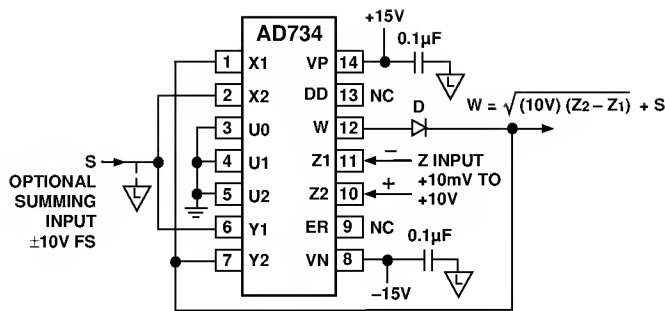

Figure 9. Connection for Square Rooting
In some cases, feedback may be connected to two of the available inputs. This is true for the square-rooting connections (Figure 9), where W is connected to both X_1 and Y_2 . Setting $X_1 = W$ and $Y_2 = W$ in Equation (2), and anticipating the possibility of again providing a summing input, so setting $X_2 = S$ and $Y_1 = S$, we find, in shorthand form
The AD734 may be used to generate an output proportional to the square-root of an input using the connections shown in Figure 9. Feedback is now via both the X and Y inputs, and is always negative because of the reversed-polarity between these two inputs. The Z input must have the polarity shown, but because it is applied to a differential port, either polarity of input can be accepted with reversal of Z1 and Z2, if necessary. The diode D, which can be any small-signal type (IN 4148 being suitable) is included to prevent a latching condition which could occur if the input momentarily was of the incorrect polarity of the input, the output will be always negative.